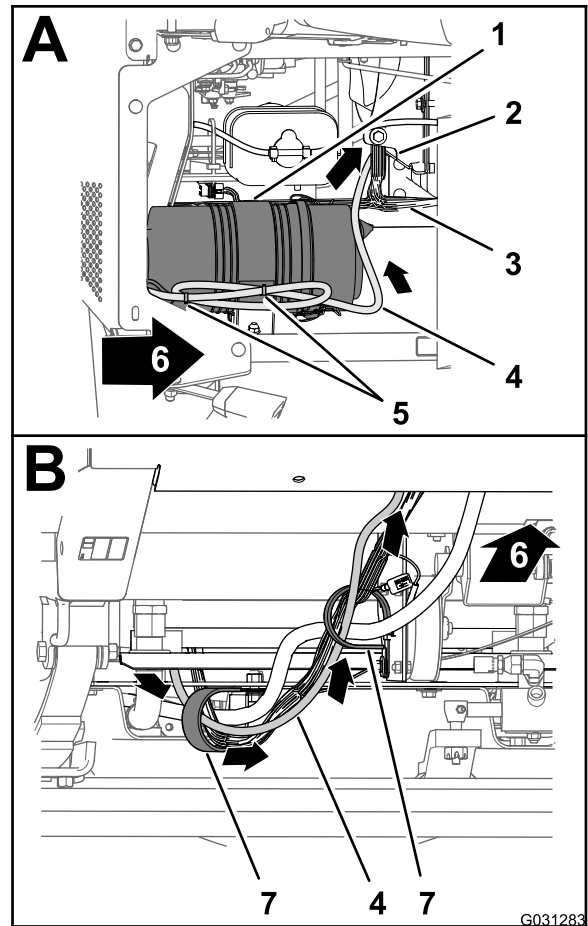

Figure 141
- At the right side of the engine compartment, route the 220 cm (86-5/8 inch) branch of the data harness forward of the air filter for the engine and down toward the lower right corner of the radiator (Figure 141).
- Route the route the 220 cm (86-5/8 inch) branch of the data harness forward and through the 2 R-clamps at the bottom of the machine (Figure 141).